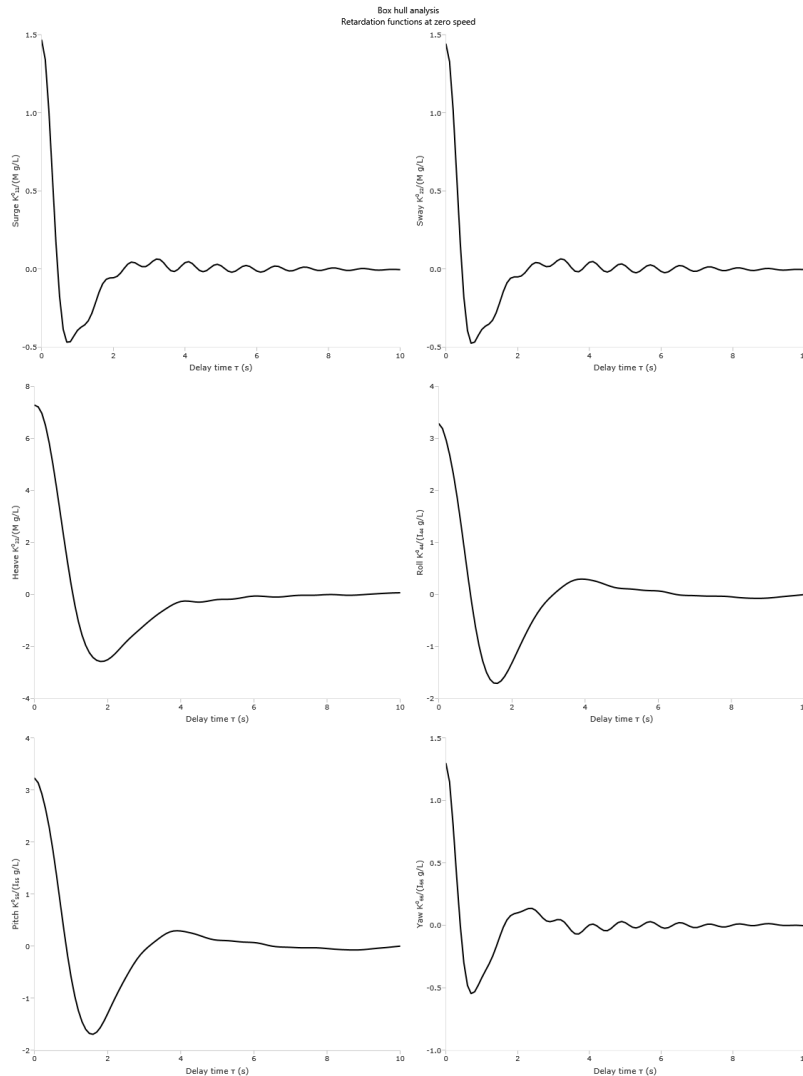

Figure 40: A plot of the square box's retardation functions.
- ☞ A new pane titled “Plot Retard” should have appeared showing the Kernel functions plotted against delay time (elapsed time). It should resemble the plots shown in Figure 40.